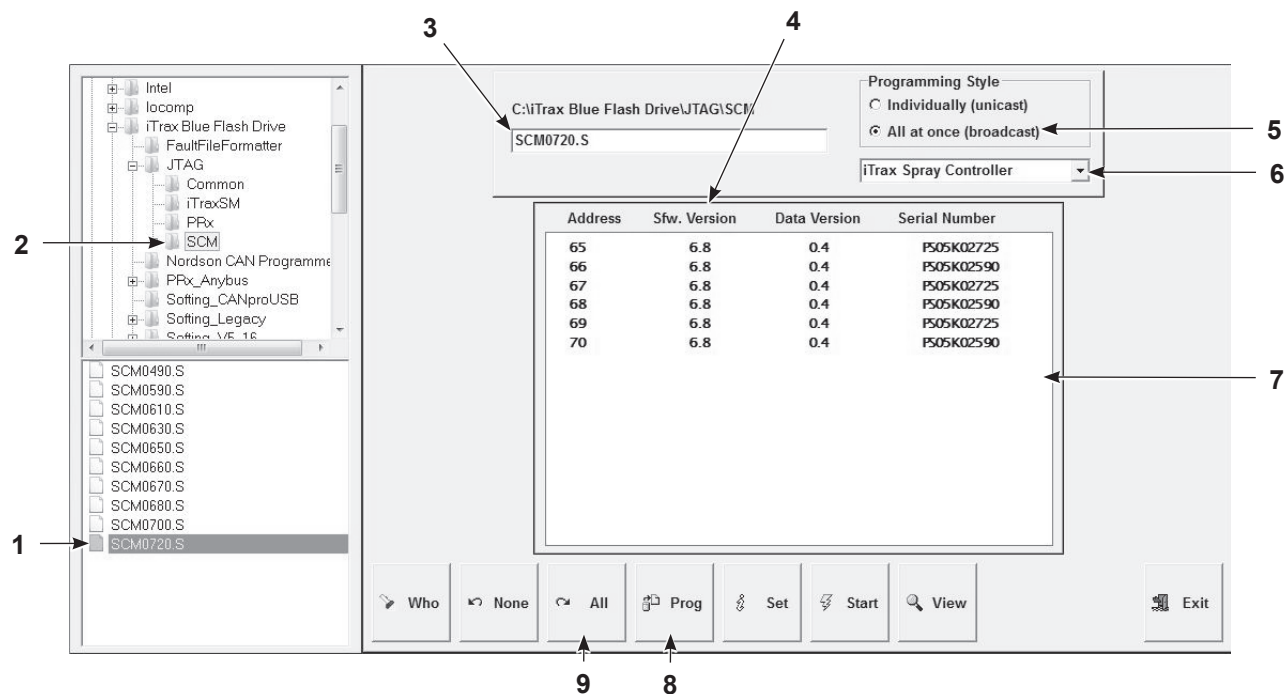

Figure 15 CAN Programmer Main Screen
See to Figure 15.
3. See Figure 15. Select iTrax Spray Controller from the list box (6). Once selected, the module address listing (7) will show selections for the iTrax monitor.
4. Navigate to C:\JTAG\SCM folder (2).
5. Select the S-record file *SCM0720.S* (1) and the file name appears in the location field (3).
6. Select the *All at once (broadcast)* button (5) to allow all programs selected to update simultaneously.
7. Select the modules to be updated in the module address listing (7).
- NOTE:** If selecting all modules, use the *All* button (9) to quickly select all the listings.
8. Select the *Prog* button (8) at the bottom of the screen. Reprogramming the module should take about one minute. A progress bar will display indicating progress.